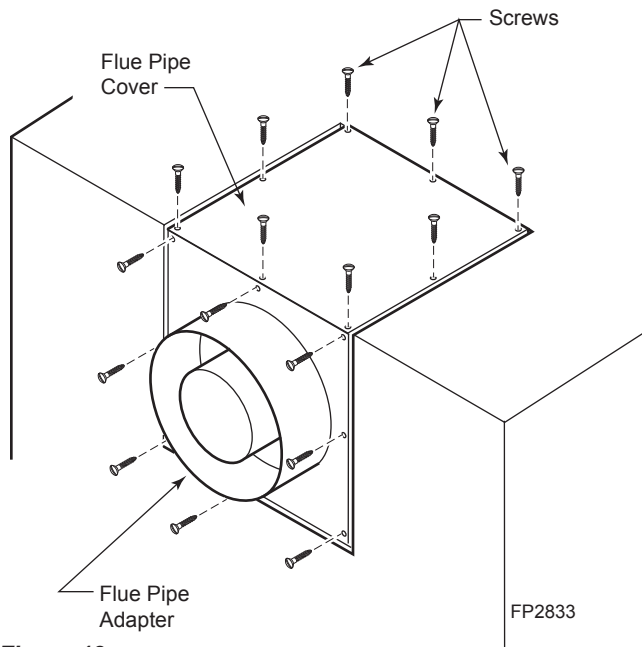

Figure 12 - Remove 16 screws from Flue Pipe Adapter and Flue Pipe Cover
1. Remove the eight (8) screws securing the flue pipe adapter to the fireplace body. *Figure 12*
3. Remove the eight (8) screws securing the flue pipe cover to the top of the intake box and remove the cover and gasket. *Figure 12*